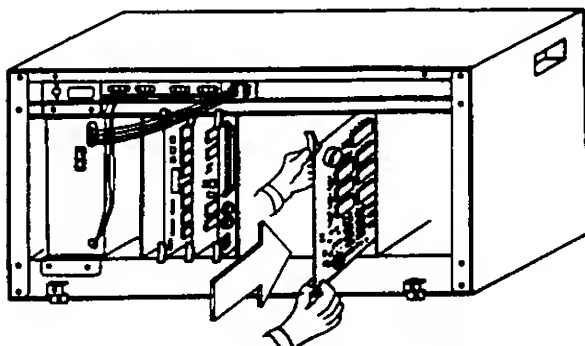

Figure 240-5 Installing ETUs
D. The component side of ETUs must be on the right side when installed. (Viewed from the front as shown in Figure 240-5).